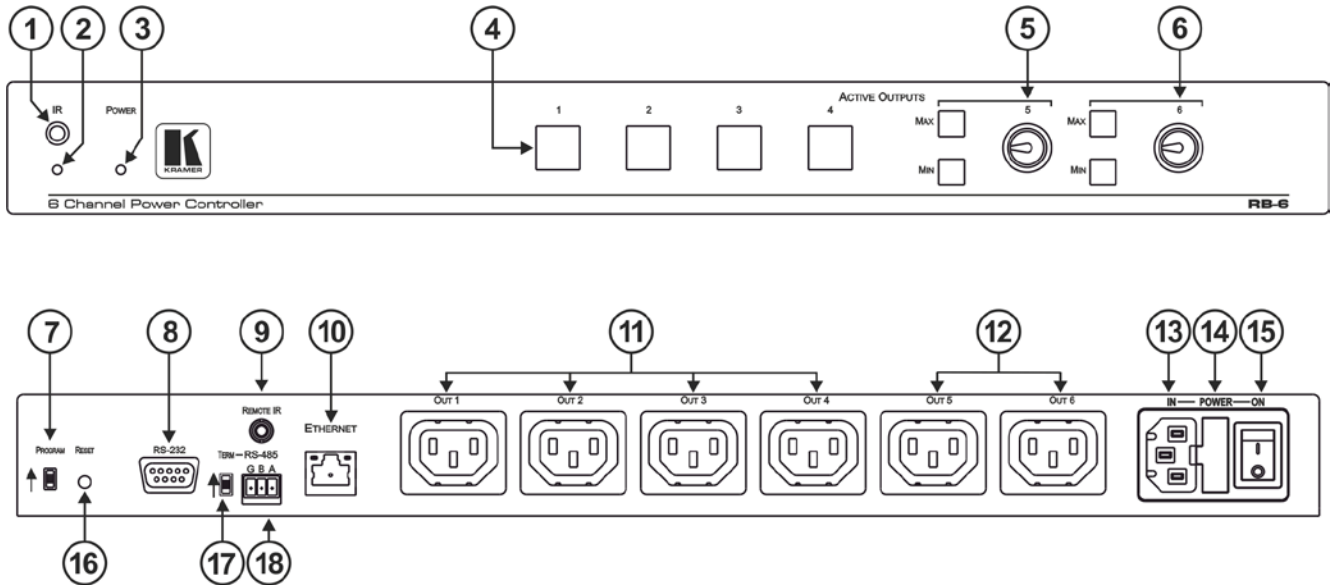
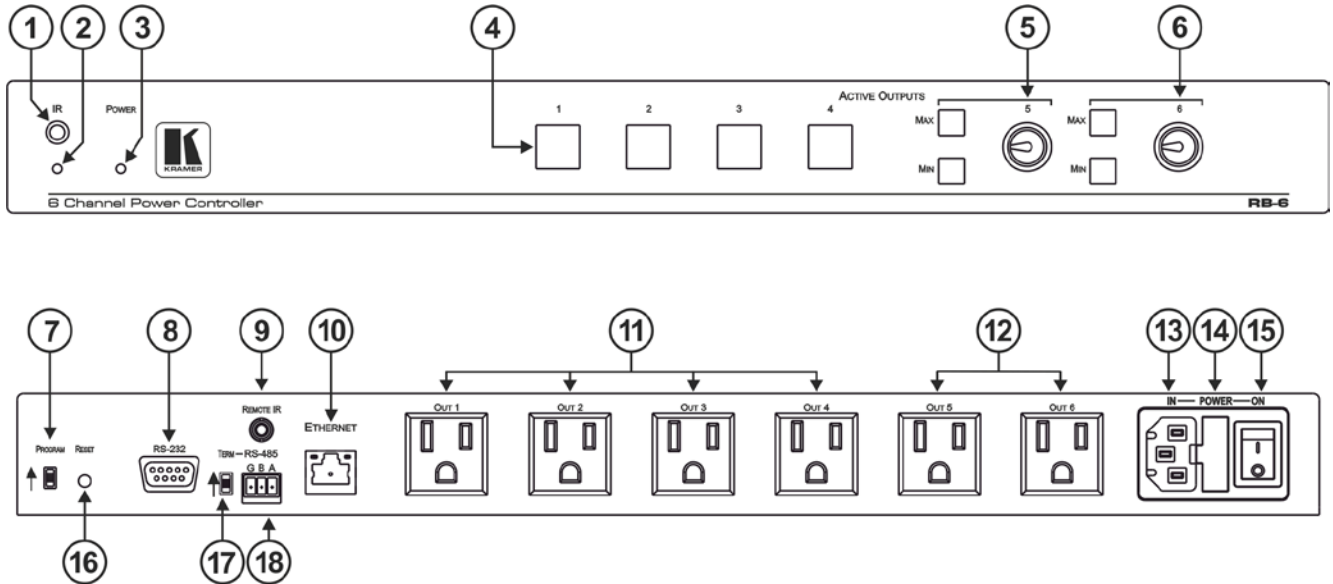

Figure 1: RB-6 6 Channel Power Controller Front and Rear Panels
Figure 2: RB-6 (US) 6 Channel Power Controller Front and Rear Panels
Figure 1 defines the RB-6 6 Channel Power Controller.
Figure 2 defines the **RB-6 (US) 6 Channel Power Controller**.
The following table refers to both Figure 1 and Figure 2.